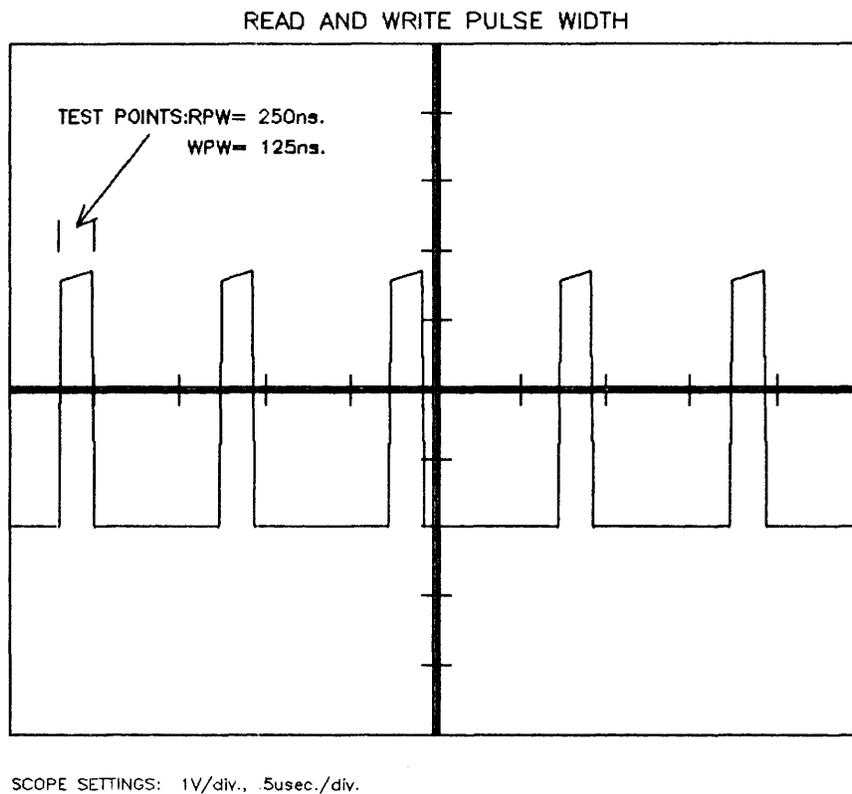

Figure 4-4
3. Observe the waveform pulse-width (see figure 4-4). The pulse width should be 250 ns.  $\pm 10\%$ .